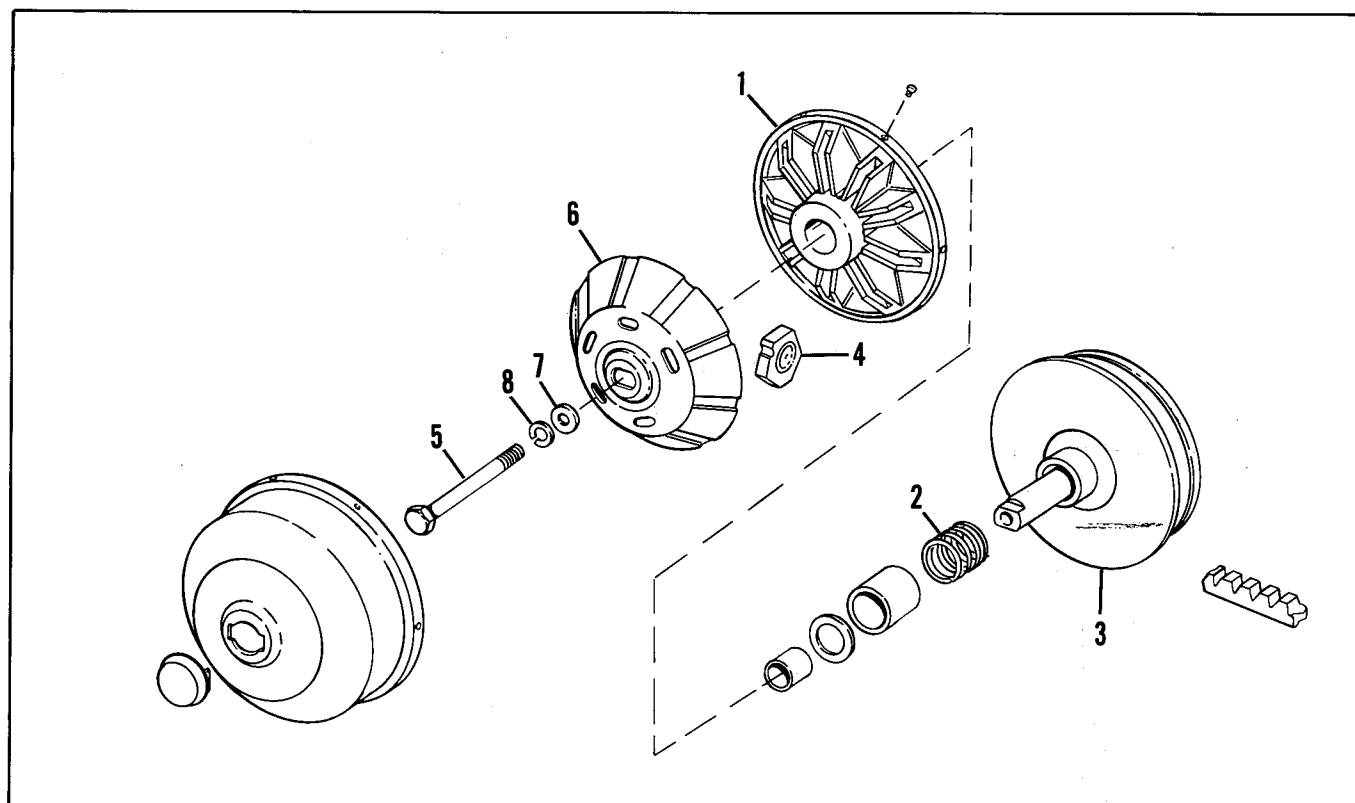

Figure 79 - Primary Drive
h. Separate the floating flange (1), spring (2) and fixed flange (3), Figure 79.
i. Remove the pucks (4), Figure 79.
- See Figure 79. Install spring (2), floating flange (1) and weights (4) to fixed flange (3) on a flat surface.
- See Figure 79. Install cover (6) by lining up the "D" slot in the cover with the slot of the stem while pressing on the cover to compress the spring (2) until cover (6) contacts the stem. Lightly tap cover onto stem until stem is flush with top of cover.